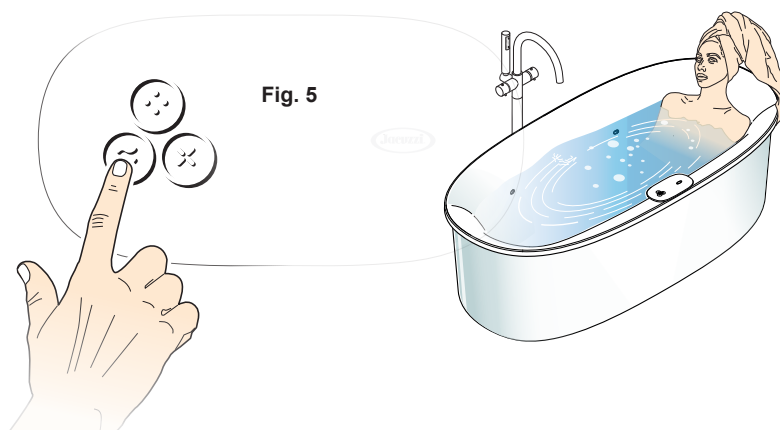

Fig. 5
- 2 To activate the Swirlpool™ function, touch the ≈ button briefly (the function starts after lifting your finger) (Fig. 5).